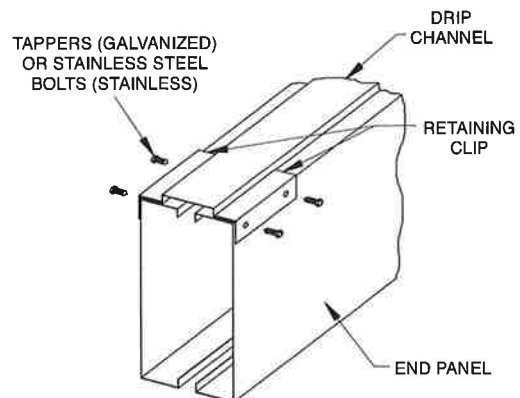

Figure 4 – Drip Channel Installation.
8. Place the drip channel over the adjoining pan section flanges. Turn around the retaining clips and re-install them using the same hardware. (see Figure 4)
10. Place the drip channel assembly over the adjoining pan section flanges. Turn around the retaining clips and re-install using the same hardware. (see Figures 4 and 8)